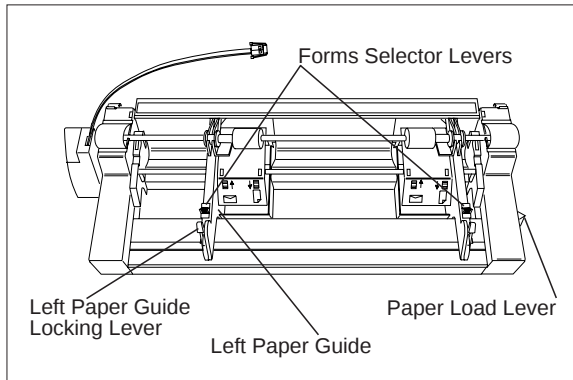

Figure 74. Bin 1 Automatic Sheet Feeder. (Viewed From Top Rear)
- The load lever is located on the right side of each bin, when viewed from the rear of the printer. See Figure 74 on page 321.
- Standing behind the printer, set the inside edge of the right paper guide to the scribe mark and use the paper guide locking lever to lock the position. See Figure 74 on page 321.
- Slide both selectors toward the printer to feed envelopes or card stock. See Figure 74 on page 321.